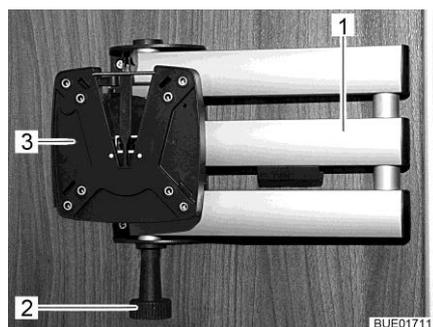

Fig. 89 Holder with jointed arm
- Pull the release knob (Fig. 89,2). The jointed arm (Fig. 89,1) is unlocked.
- Turn the flat screen back into the original position until you hear the holder (Fig. 89,3) engage in the lock.